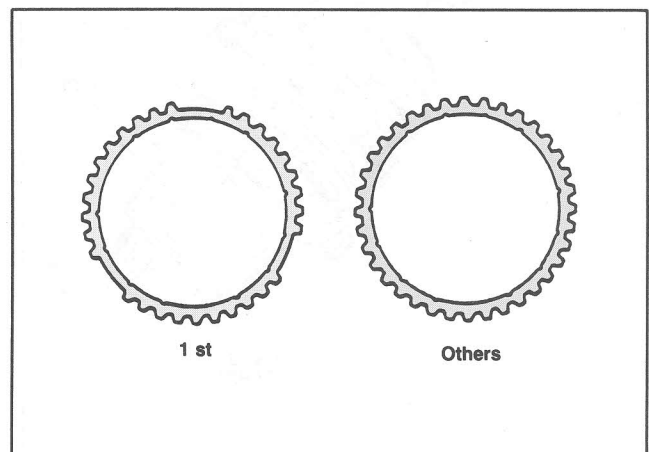

Figure 96 First Gear Synchronizer
**NOTE:** The first gear blocking ring is different from the other synchronizer blocking rings. In three positions, it does not have synchronizer teeth. (Figure 96).